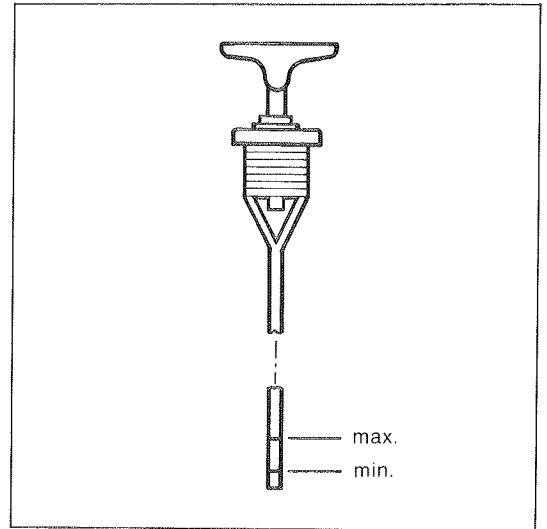

Figure 6
6. Shut down engine and check fluid level again. If necessary, top up to the marking on the dipstick (Figure 6).